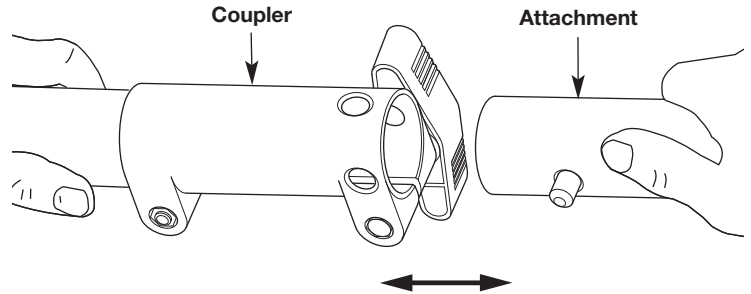
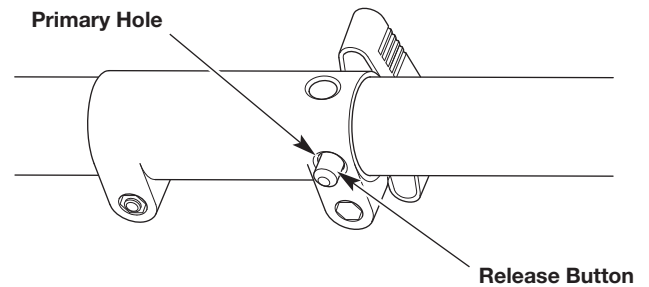

Fig. 4
Fig. 5
4. Push the attachment straight into the coupler (Fig. 4) until the release button snaps firmly into the primary hole (Fig. 5).
3. Press and hold the release button (Fig. 5).
4. Pull the attachment straight out of the coupler (Fig. 4).